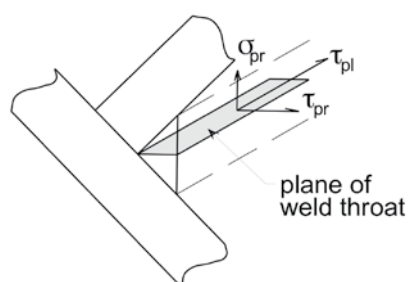

Figure 1 Stresses on the weld throat
In the directional method for the design of fillet welds, direct stresses perpendicular and parallel to the weld throat are denoted in clause 4.5.3.2(4) and so are shear stresses in the plane of the weld throat. Direct stresses parallel to the axis of the weld are not considered further. The orientations of the stresses are shown in Figure 1.